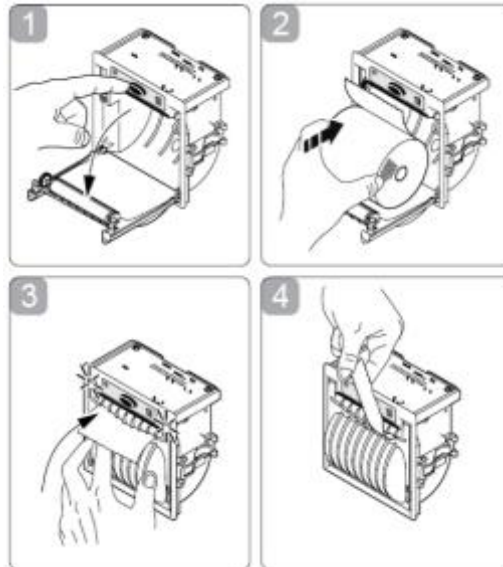

Figure 11 – Printer loading paper
7. Open the printer cover door (3) by pulling it at the left bottom corner (2)
8. Press the OPEN key to open the printer cover as shown (see Fig. 11/1). Handle the paper cutter carefully not to cut your hand.
11. Hold the loose end of the paper with one hand and re-close the cover with the other hand as shown (see Fig. 11/3) the printer cover is locked.
12. Tear off the exceeding paper using the jagged edge (see Fig. 11/4).